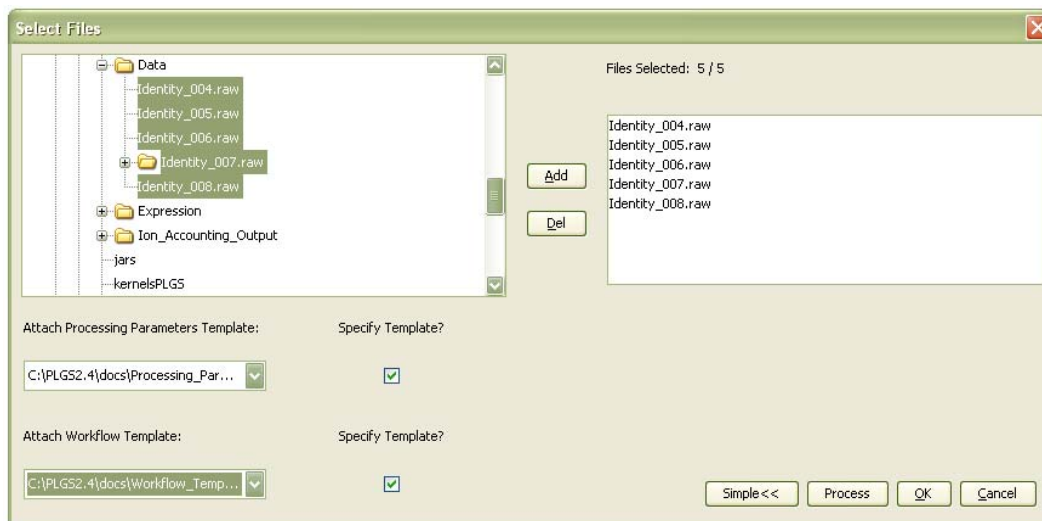

Figure 104 - Attaching processing parameters and workflow templates
34. Click **Advanced**>> to access the templates (Figure 104).
36. Click the drop-down list and select the template created in step 21 (Figure 104).
38. Click the drop-down list and select the template created in step 13 (Figure 104).